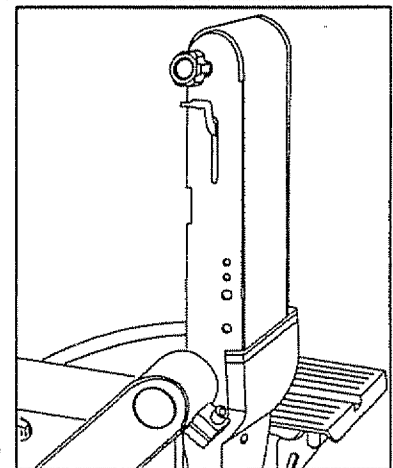

Fig. 15
■ Changing the sanding belt bed position (see figure 15)